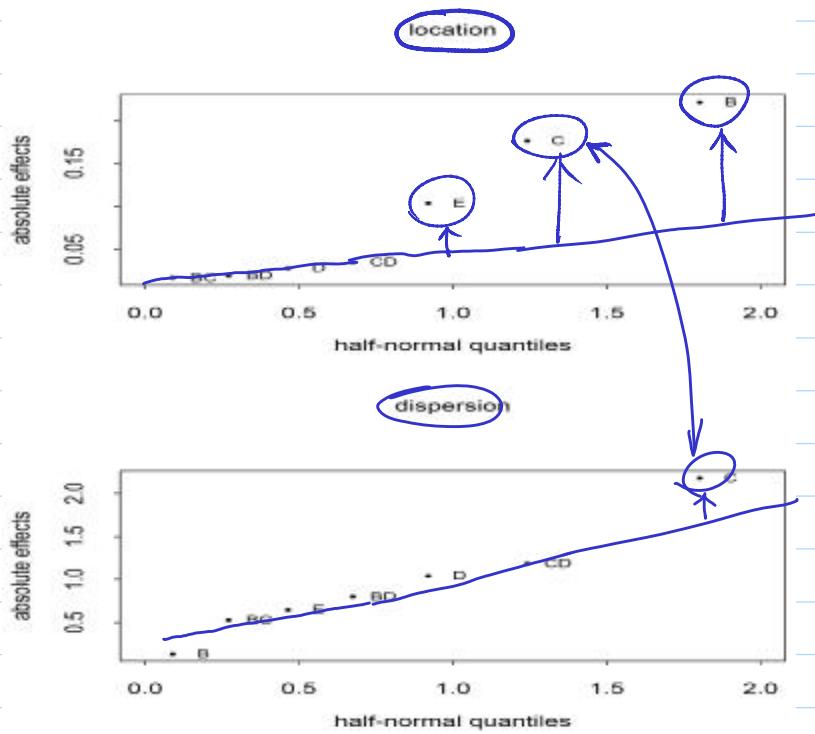

Figure 3: Half-Normal Plots of Location and Dispersion Effects, Leaf Spring Experiment
- Based on the half-normal plots in Figure 3,  $B$ ,  $C$  and  $E$  are significant for location,  $C$  is significant for dispersion: